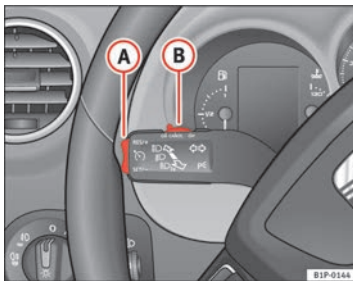

Fig. 131 Turn signal and main beam headlight lever: switch and rocker switch for the cruise control
- Push the switch ⇒ fig. 131 **B** to the left to **ON**.